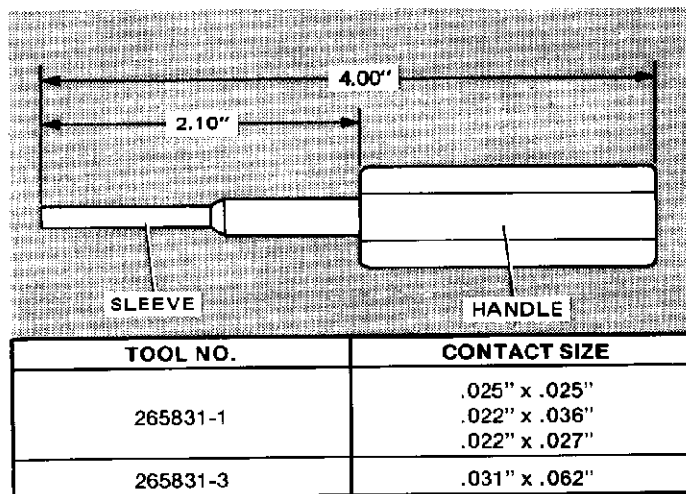

Figure 1
The contact replacement tool shown in Figure 1 is used to remove and replace contacts in AMP TERMI-TWIST connector blocks.
- Select the correct tool for the TERMI-TWIST contact to be removed. Refer to Figure 1.